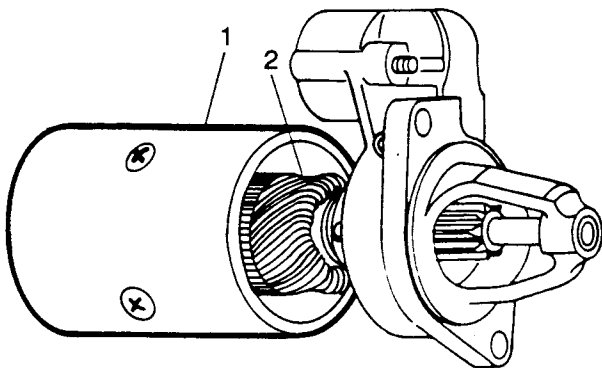

Fig O6.19
- (5) Refer to Fig O6.19. If it has been removed, fit the internal thrust washer (3) to the commutator end of the armature shaft.
- (6) Fit the yoke (1) over the armature assembly (2).